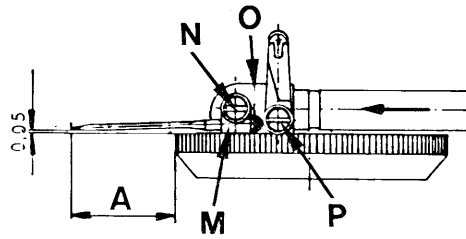

Fig. 13
- Loosen off screw N which fixes the needle clamp plate (fig. 13).